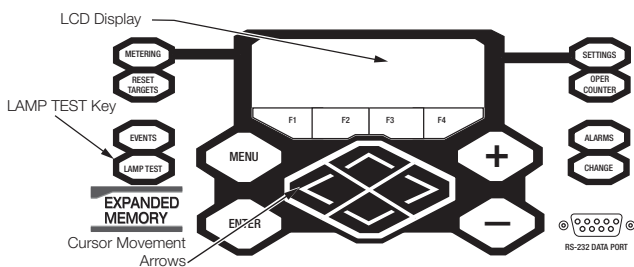

Figure 24. Lamp test button, LCD display, and cursor movement arrows
1. Verify operating status of all indicator lights by pressing the LAMP TEST key on the programming panel (Figure 24).
Note: Scroll through the LCD display messages by pressing the \uparrow and \downarrow cursor movement arrows underneath the LCD display on the programming panel (Figure 24).